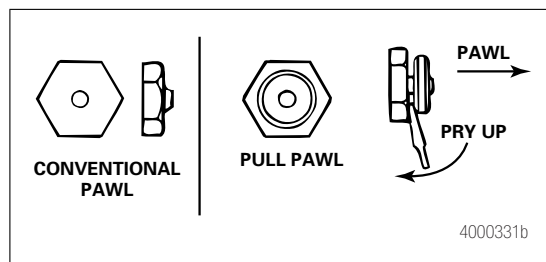

Figure 3.1
1. Disengage the pull pawl. Use a screwdriver or equivalent tool to pry the pull pawl at least 1/32-inch (0.8 mm) to disengage the teeth. Figure 3.1.
- If the slack adjuster has a conventional pawl: Remove the pawl. Figure 3.1.